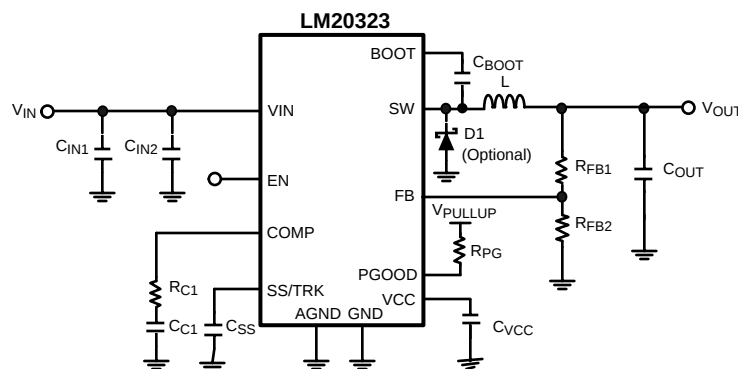

Figure 2. Typical Application Circuit
switching losses low allowing use of a small inductor while still achieving efficiencies as high as 93%. The precision internal voltage reference allows the output to be set as low as 0.8V. Fault protection features include: current limiting, thermal shutdown, over voltage protection, and shutdown capability. The device is available in the eTSSOP-20 package featuring an exposed pad to aid thermal dissipation. The typical application circuit for the LM20323 is shown in Figure 2 in the design guide.
This section walks the designer through the steps necessary to select the external components to build a fully functional power supply. As with any DC-DC converter numerous trade-offs are possible to optimize the design for efficiency, size, or performance. These will be taken into account and highlighted throughout this discussion. To facilitate component selection discussions the circuit shown in Figure 2 below may be used as a reference. Unless otherwise indicated, all formulas assume units of amps (A) for current, farads (F) for capacitance, henries (H) for inductance and volts (V) for voltages.